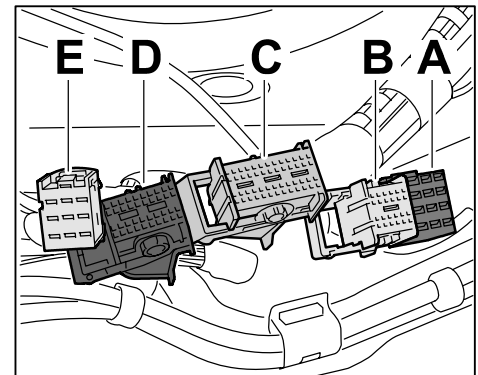

Figure 25
8.1.2 Pull off all connectors on DME control module ⇒ *Figure 25* and release connector C ⇒ *Figure 25 -C-*.